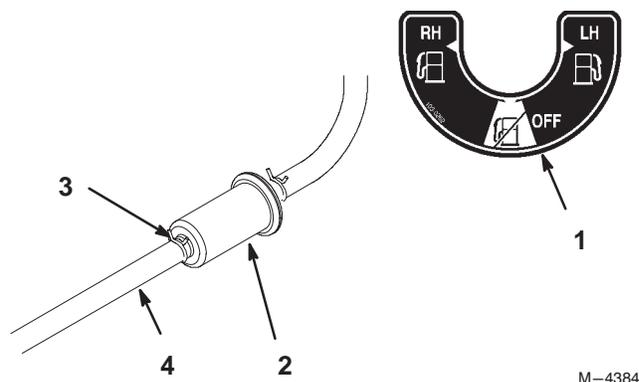

Figure 47
6. Install a new filter and move the hose clamps close to the filter (Fig. 47).
2. Close fuel shut-off valve (Fig. 47).
3. Loosen the hose clamp at the fuel filter and slide it up the fuel line away from the fuel filter (Fig. 47).
4. Pull the fuel line off fuel filter (Fig. 47). Open fuel shut-off valve and allow gasoline to drain into a gas can or drain pan.
5. Install the fuel line onto the fuel filter. Slide the hose clamp close to the fuel filter to secure the fuel line (Fig. 47).